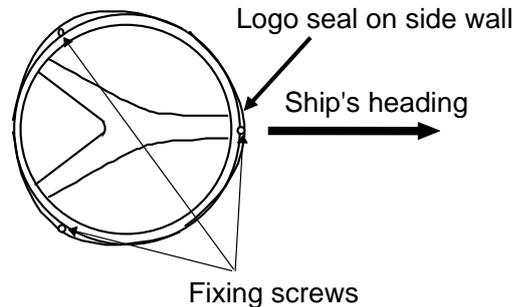

Fig.3-7-1 Fitting Cover (MDC-721)
- 7) Replace the upper part of the radome, being careful not to bump it against the antenna. Make sure that the cover is positioned in the correct direction as shown in Fig.3-7-1. The upper and lower parts of the radome each have three alignment markings indicating screw positions.